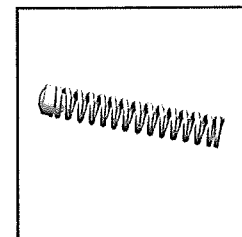

Fig. 11
4. Ensure the spring pad has not been worn down and clean the spring of any debris. (See fig 11)